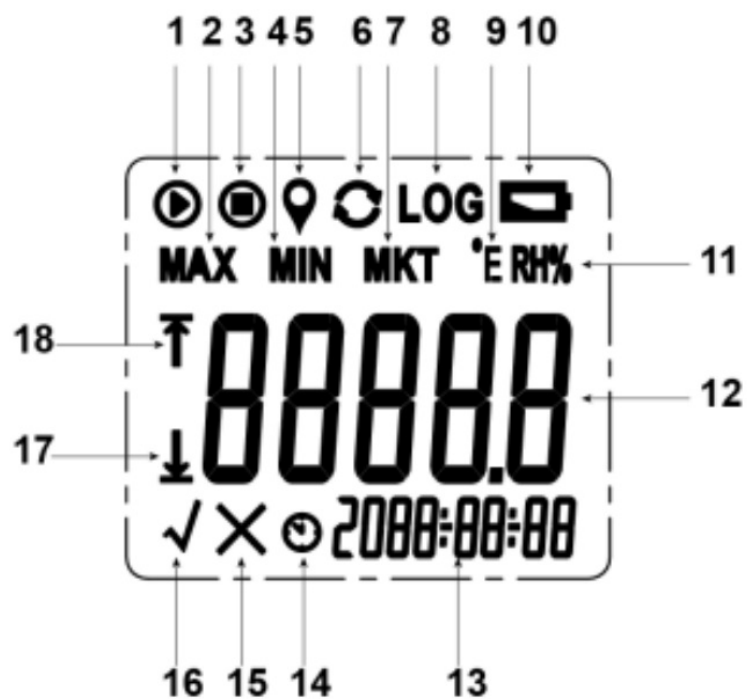

Figure 2
- 5 Display \(Figure 2\)
Display (Figure 2)